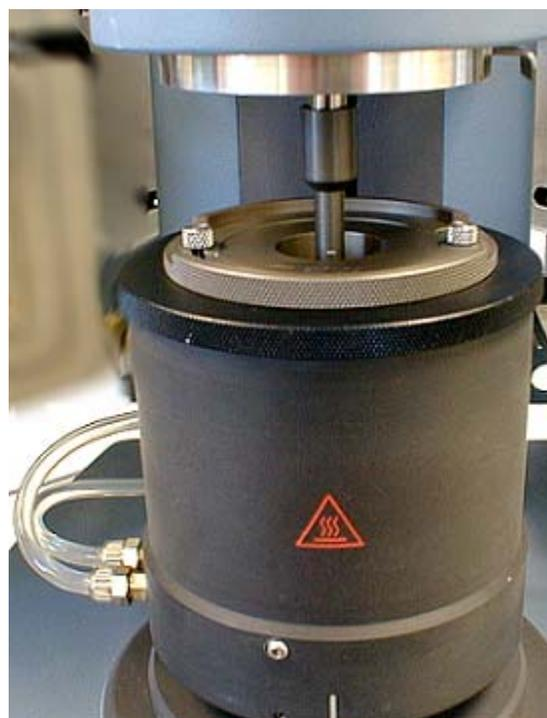

Figure 5.12
7. Lower the rheometer head until the datum mark on the shaft of the rotor is level with the top of the cup as shown in Figure 5.12 to the right. You can now set up the measuring geometry in the rheometer software and set the gap explained in the online help.